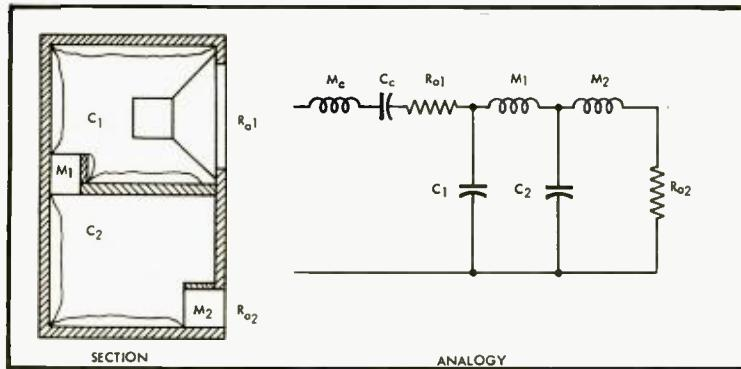
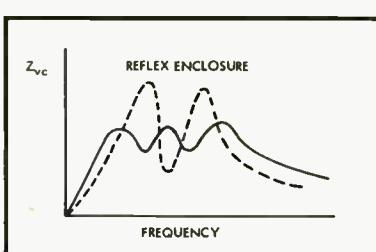

Fig. 15. Cross section and analogy of Acoustical Manufacturing Co.'s corner ribbon enclosure.
Fig. 16. Response curve (solid line) of enclosure of Fig. 15 compared with reflex cabinet.
**The Acoustical Corner Ribbon Enclosure.** This is an enclosure of the double reflex type as shown in Fig. 15. The analogous circuit is also shown. A system of this nature will exhibit three impedance resonances alternating with two anti-resonances. A sketch showing comparison as stated is shown in Fig. 16. The progressive increase towards a flatter and more extended bass is noticed.